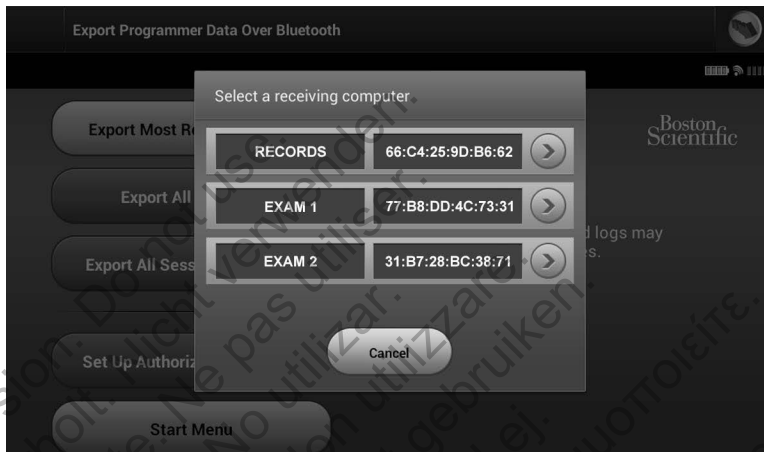

Figure 42: Select a computer to receive the transfer
2. Select one of the three export options (Export Today's Data, Export Last Seven Days, Export All). The "Select a receiving computer" pop-up window will appear (Figure 42).